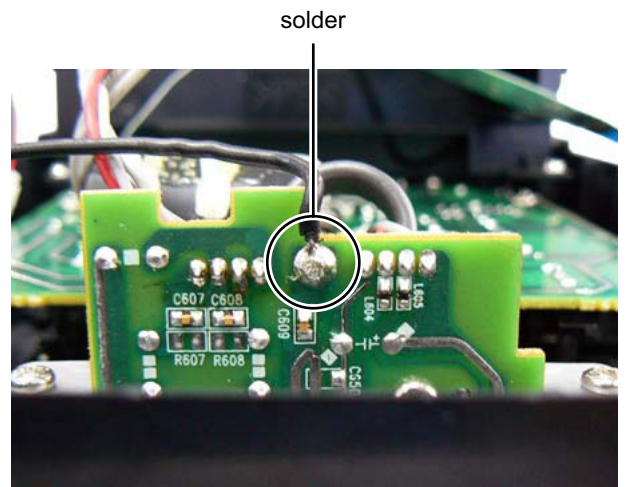

Fig.11
- (7) Remove the solder the soldering earth wire from MAIN BOARD assembly soldering to USB BOARD assembly. (See Fig.11)